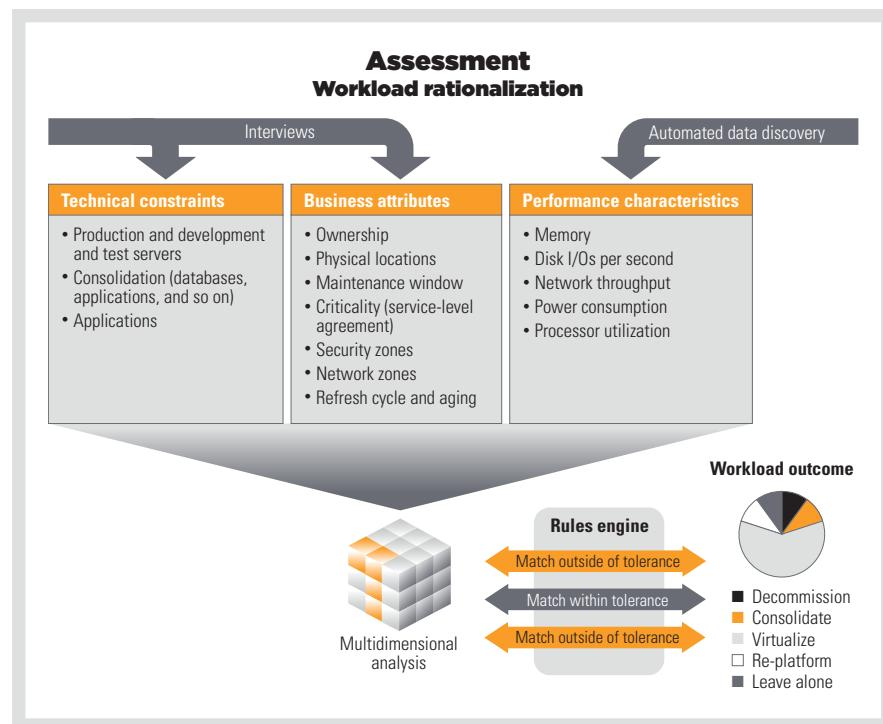

Figure 3. Example virtualization assessment process used by Dell Global Infrastructure Consulting Services
- Assessments:** Assessments are designed to help organizations make informed decisions to help maximize the advantages of virtualization in specific environments. The assessment enables Dell to identify the scope of relevant solutions and make deployment recommendations. Using automated processes, Dell gathers up-to-the-minute information about the server environment, including key data on system inventory and up to one business cycle of performance data. Dell can then analyze the data, assess the situation, and outline options available in the existing infrastructure (see Figure 3).